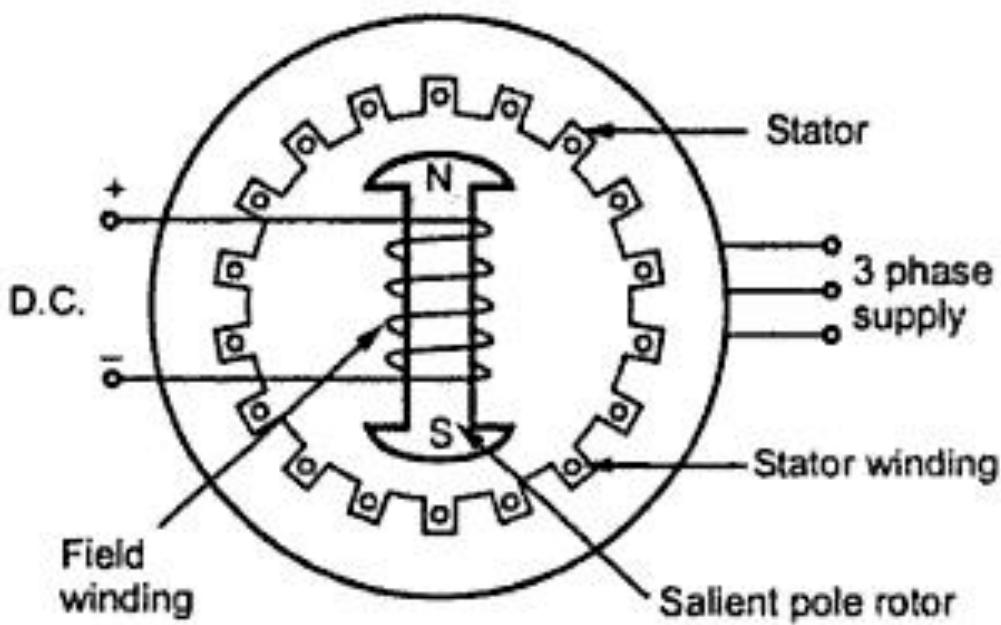

Figure 4.17 Synchronous generator construction
- Construction wise, an alternator consists of field poles placed on the rotating fixture of the machine i.e. rotor as shown in the *Figure 4.17* below.